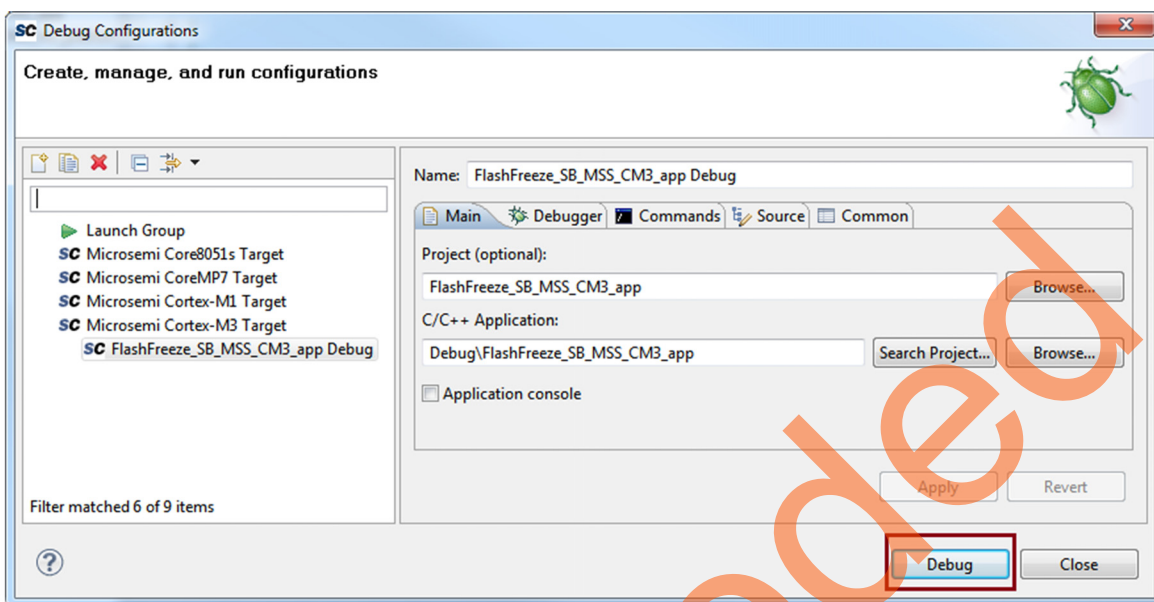

Figure 14 • Debug Configurations
12. Launch the **Debugger**. Select **Debug Configurations** from the **Run** menu and click **Debug** as shown in Figure 14.